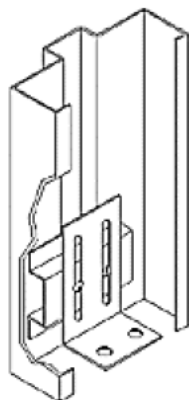

Figure 7b
6. The Adjustable Floor Anchor: (Figure 7b) is designed for use where there are significant irregularities from level, an intended slope in the floor, or where toppings such as terrazzo are used. Like the standard anchor, it cannot be used in prepared openings or slip-on knock-down dry-wall frames.